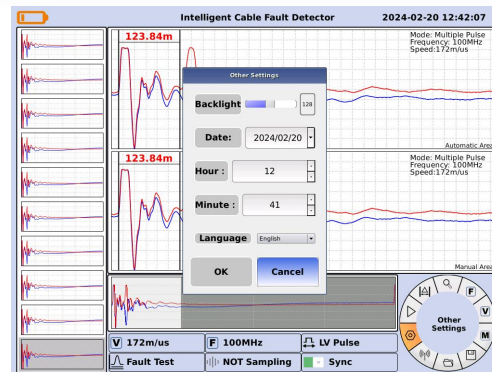

Figure 3.16 Other Settings Interface
Press the "Photoelectric Rotator ⑪" to enter the other settings interface. As shown in Figure 3.16, press the "Photoelectric Rotator ⑪" to switch the focus to backlight, and adjust the brightness by rotating the knob.